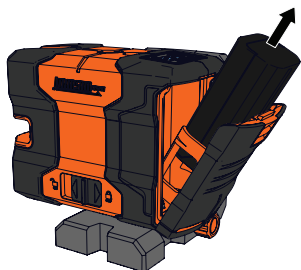

Figure 5
1. Open the battery compartment. (*Figure 3 - Figure 5*)
(Figure 5)